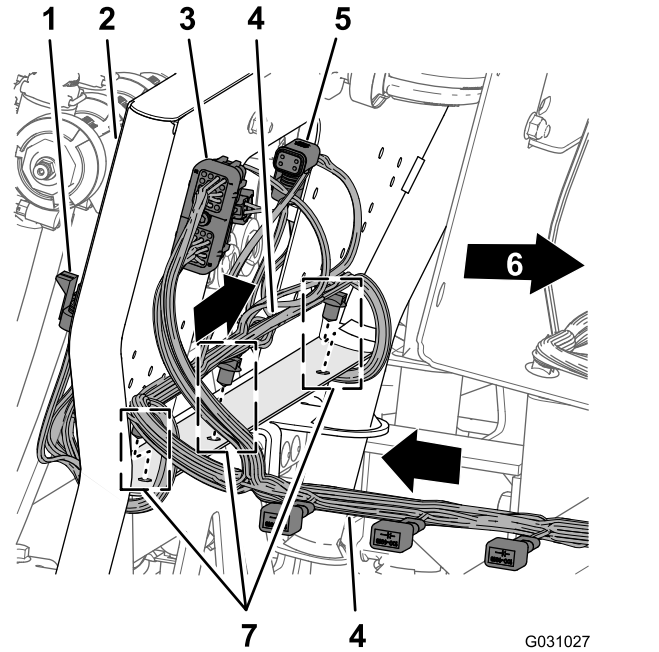

Figure 99
1. Route the 203 cm (80 inch) wire-harness branch across the back of the 10-valve mount with the 10 connectors for the nozzle valves rearward and below the valves (Figure 99).
2. Insert the push-in fasteners of the 203 cm (80 inch) wire-harness branch into the holes in the lower flange of the 10-valve mount (Figure 99).